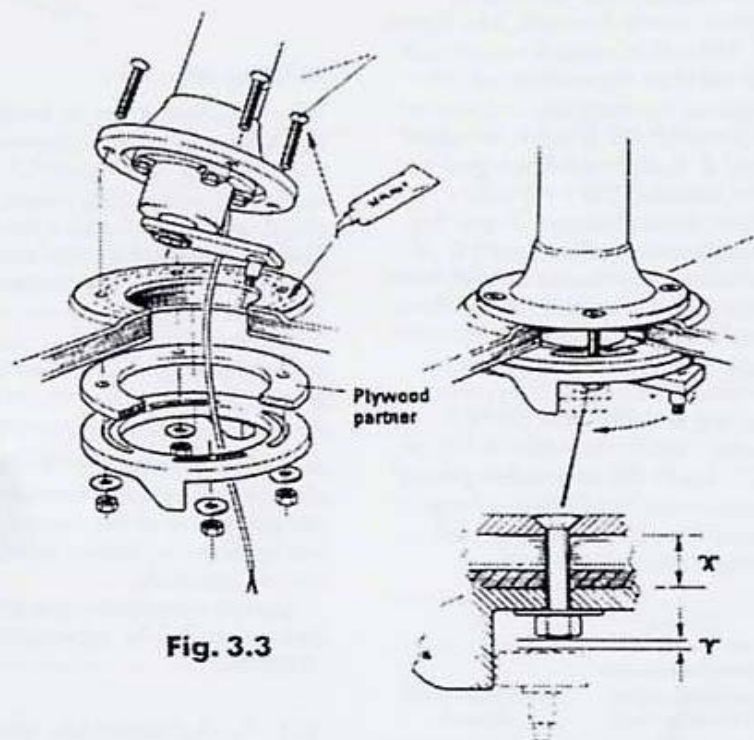

Fig. 3.3
It may be necessary to manufacture a spacer ring to obtain the correct height for the stop ring — see Figure 3.3. Distance 'x' needs to be adjusted to allow the full edge of the output lever to abut the lug on the stop ring.
4.2 When you have aligned the pedestal mark the 4 off 13mm/1/2" diameter holes to be drilled on the cockpit sole. Remove the pedestal and drill holes. Using a non-setting mastic apply a bead of sealant around the underside edge of the pedestal base. Carefully set the pedestal back in position and insert the four pedestal mounting bolts. Put sealant under the head of the countersunk bolts and tighten with heavy washer and nuts. See Fig 3.3.